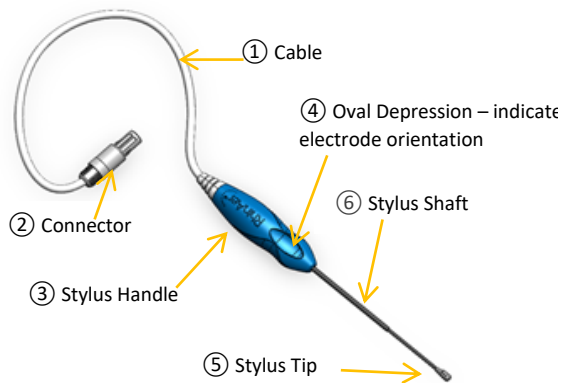
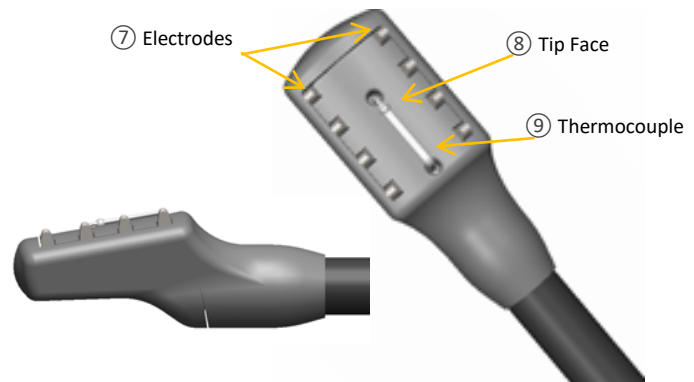

Figure 1: Stylus
Figure 2: Stylus Tip
The RhinAer® Stylus consists of a handle, shaft and treatment tip (see Figure 1). An array of bipolar electrodes is positioned on a non-conductive tip (see Figure 2) which is attached to a handle via a non-conductive shaft. A temperature sensor is located on the tip (see Figure 2) to monitor tissue temperature. The Stylus is attached to a temperature-controlled radiofrequency generator via a flexible cable.
19. Position the electrode-containing portion of the tip of the Stylus against the target tissue of the nasal airway and exert gentle pressure. The orientation of the electrodes may be verified by the Oval Depression on the Stylus handle. Refer to Figure 1.